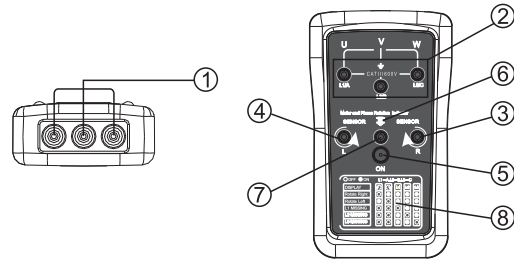

Figure 1
See the instrument indicator, button and jack as shown in Figure 1:
- Press down "ON" button, G9303 power indicator illuminates, release it, the button springs up automatically and the indicator turns off. Therefore you need to press down "ON" button in order to begin the test. When ON is pressed down, "Clockwise" (R) or "Counter-clockwise" (L) rotation indicator illuminates, indicating three-phase system is under "Positive" or "Negative" phase sequence.
- Place G9303 towards the motor, in parallel with motor shaft. The bottom of the instrument should face the shaft (namely, G9303 is located in a direction contrary to that of the motor). Refer to Figure 1 for motor location indicator.